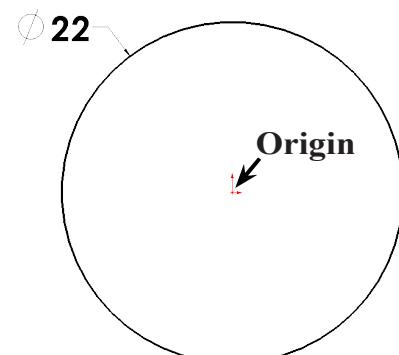

Fig. 2
Step 4. Sketch circle starting at the Origin , Fig. 2.
Step 5. Click Smart Dimension (S) on the Sketch toolbar.
Step 6. Dimension diameter 22, Fig. 2.